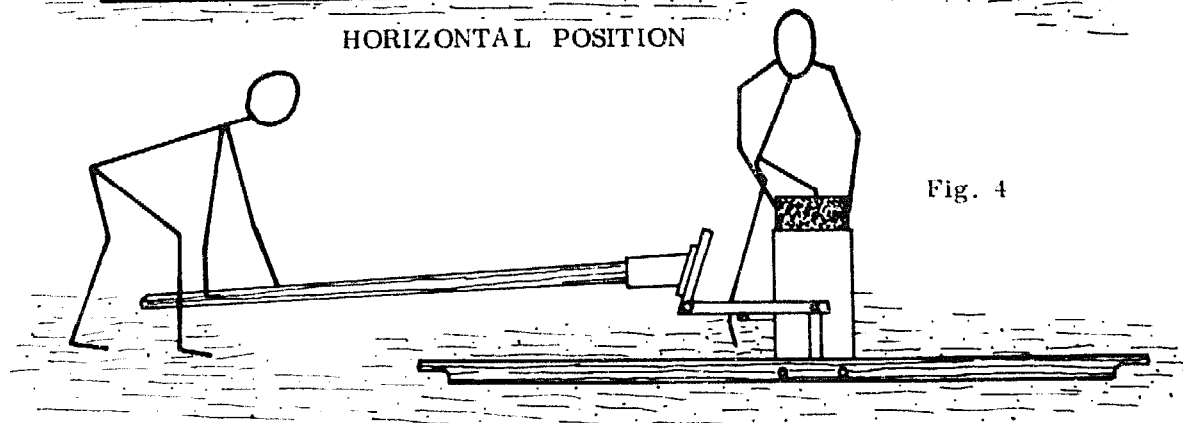

Fig. 4
- h - Raise the block out of the mould box by swinging the handle back against the lower rollers (Fig. 4).